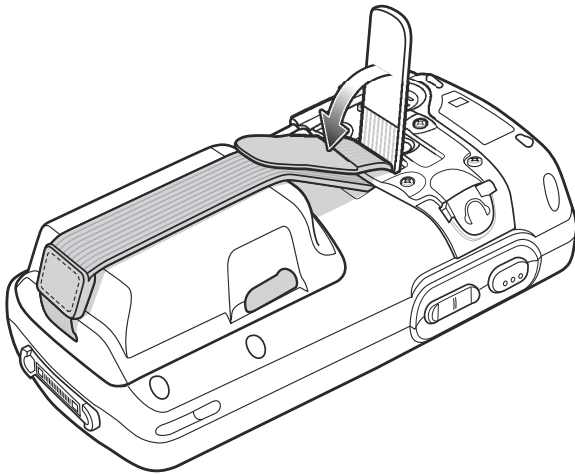

Figure 1-10 Handstrap Adjustment
2. Secure the handstrap by pressing the two sides together as shown in Figure 1-10.